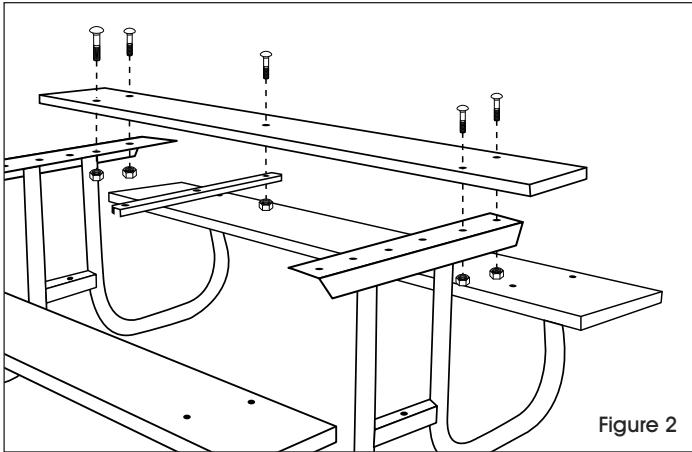

Figure 2
3. Attach an outside table top board to the frame using 2 $\frac{1}{4}$ " carriage bolts, lock washers and hex nuts. (See Figure 2)
4. Attach the center strut to the middle of the table top board with the flat side up using a 2 $\frac{1}{4}$ " carriage bolt, flat washer, lock washer and hex nut. (See Figure 2)